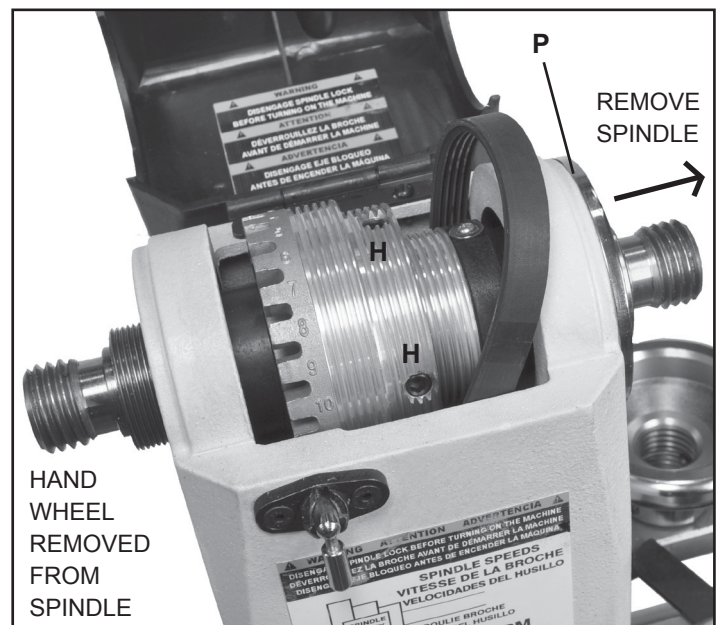

Fig.6.3.2
7. At the opposite inboard side of the headstock, remove the Bearing End Plate (#19B) by unscrewing the 3 hex head Screws (#20B) with a 3mm hex wrench. FIG. 6.3.2, P.
8. Remove and loosen the Set Screws (FIG. 6.3.2, H) that attach the Spindle Pulley (#7B) to the spindle. The pulley should now be loose on the spindle. NOTE: There are two(2) set screws, one on top of the other, in both of the two (2) threaded holes. This stacking keeps the set screws from loosening during use.
9. Carefully knock the spindle, towards the tailstock. Use a block of wood against the left spindle end to prevent any damage when it is hit with a mallet/hammer. The spindle pulley, spacers, sleeve and bearings will all slide along the spindle. See page 18 for the spindle diagram assembly. Once there is enough space, the old drive belt can be removed around the spindle end, and replaced with the new belt. FIG. 6.3.2.